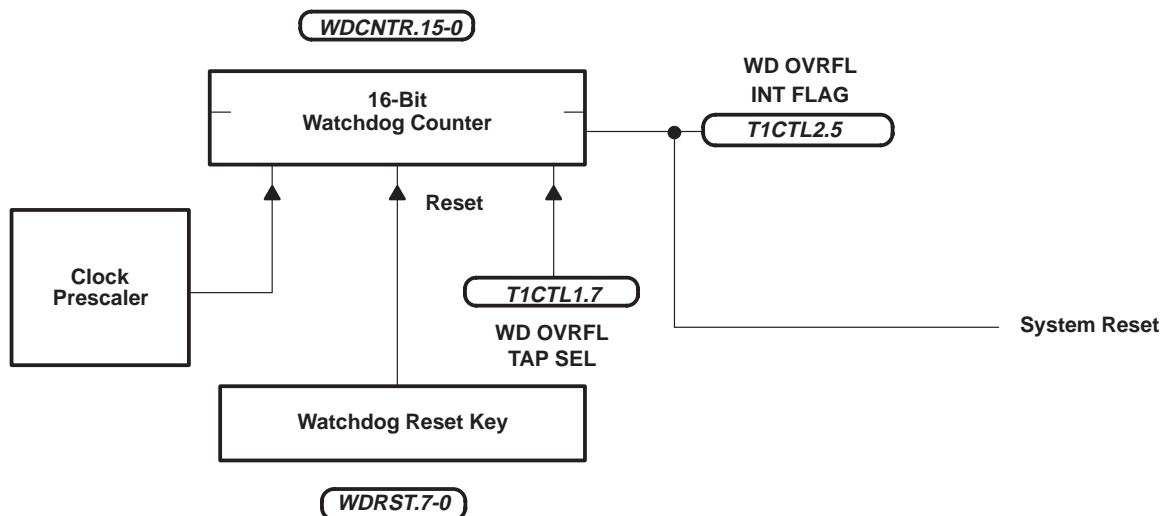

Figure 9. Hard Watchdog
- Hard watchdog configuration (see Figure 9) for 'C722 EPROM and mask-ROM devices: